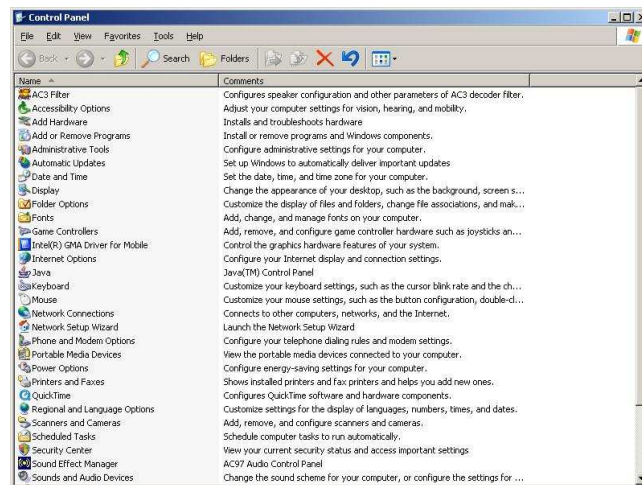

Figure 22: Control Panel
2. Double click on `Control Panel`, obtaining a screen like figure 22.